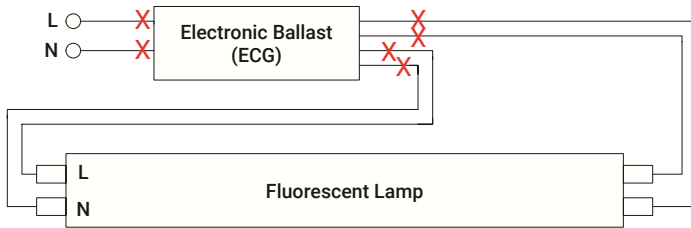

Fig. 4a
4. Identify which ballast type is installed in the troffer fixture and then disconnect all wires connected to the ballast at shown (X) locations below based on identified ballast type (See Fig. 4a, 4b & 4c)